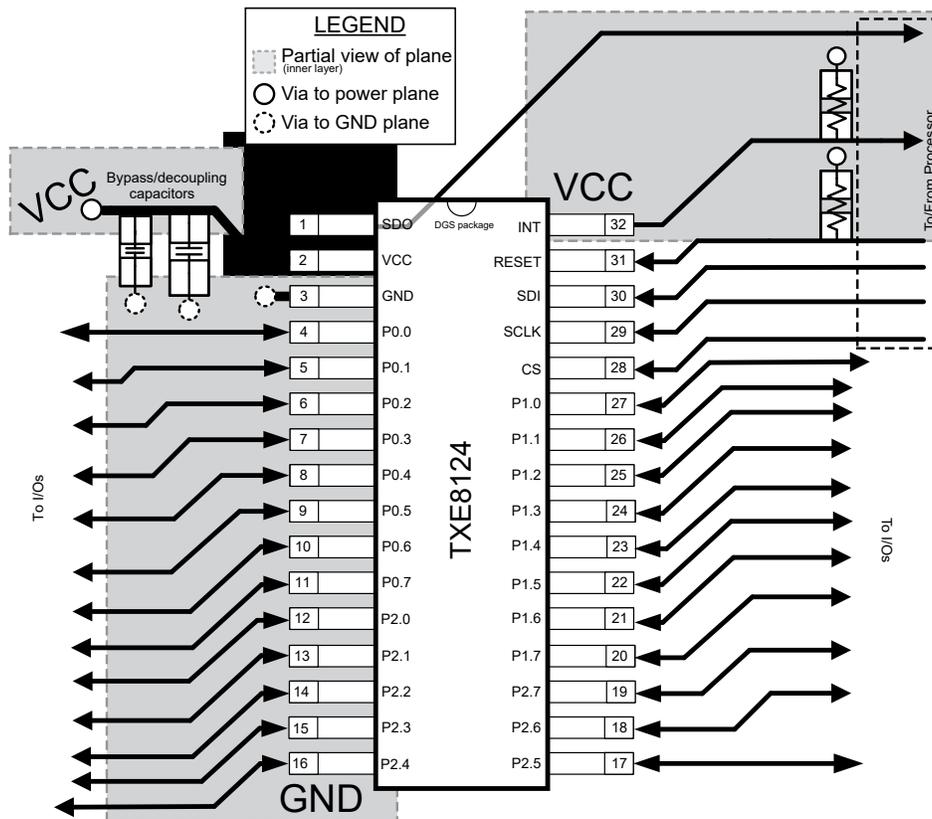

Figure 8-5. TXE8124-Q1 Layout
In all PCB layouts, it is a best practice to avoid right angles in signal traces, to fan out signal traces away from each other upon leaving the vicinity of an integrated circuit (IC), and to use thicker trace widths to carry higher amounts of current that commonly pass through power and ground traces. By-pass and decoupling capacitors are commonly used to control the voltage on the supply pins, using a larger capacitor to provide additional power in the event of a short power supply glitch and a smaller capacitor to filter out high-frequency ripple. These capacitors should be placed as close to the TXE8116-Q1/TXE8124-Q1 as possible. These best practices are shown in Figure 8-5.
For the layout example provided in Figure 8-5, it is possible to fabricate a PCB with only 2 layers by using the top layer for signal routing and the bottom layer as a split plane for power and ground (GND). However, a 4 layer board is preferable for boards with higher density signal routing. On a 4 layer PCB, it is common to route signals on the top and bottom layer, dedicate one internal layer to a ground plane, and dedicate the other internal layer to a power plane. In a board layout using planes or split planes for power and ground, vias are placed directly next to the surface mount component pad which needs to attach to power or GND and the via is connected electrically to the internal layer or the other side of the board. Vias are also used when a signal trace needs to be routed to the opposite side of the board, but this technique is not demonstrated in Figure 8-5.